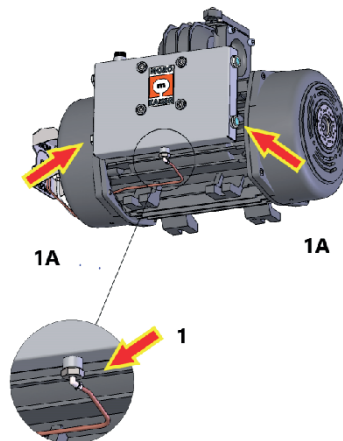

Fig. H.5 - Phase 0010
- Unscrew the head of the fitting (**pos.1 Fig. H.5**) (spanner ch10).